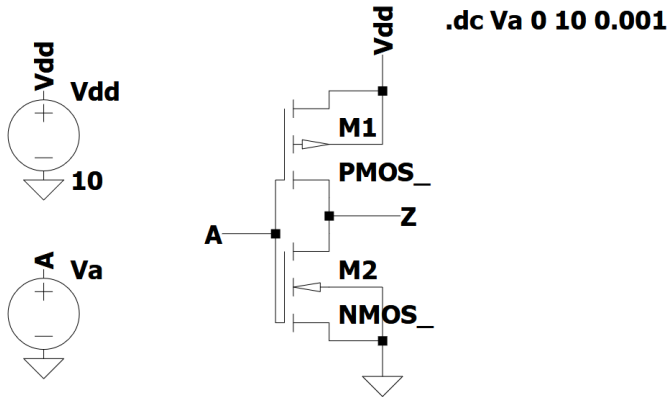

Figure 1: Circuit setup of the transistor-level CMOS inverter in LTspice.
From Fig.1, the circuit setup of the transistor-level CMOS inverter in LTspice is shown. First, on the left side, there are two voltage sources, the power supply voltage (Vdd) is set to 10V , while V2 represents the input voltage (A). Then, on the right side, there are two MOSFETs used to represent the PMOS and NMOS transistors. The upper side is the PMOS transistor, which